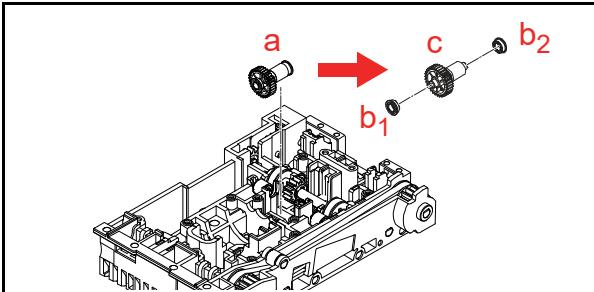

**Figure 4-69 Quad TR Motor Harness Assy. Removal 2**
2. Remove the two (2) Screws (Figure 4-69 a1 & a2).
3. Remove the Detection Plate (Figure 4-69 b), the Motor Plate (Figure 4-69 c) and the Pinion Gear (Figure 4-69 d) from the Quad TR Motor Harness Assy. (Figure 4-69 e).